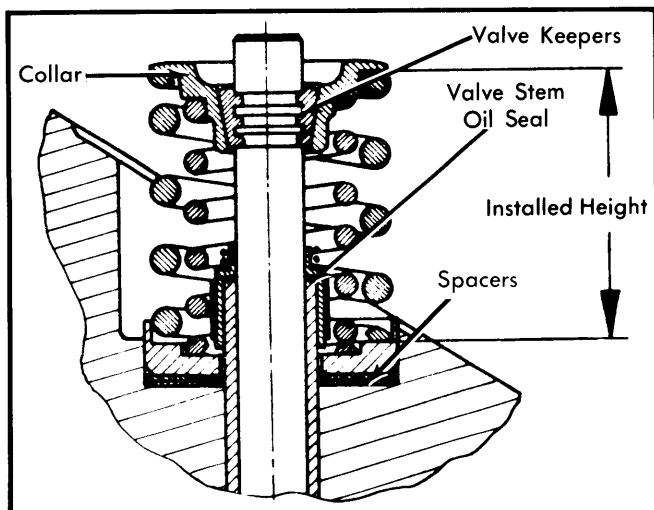

**Fig. 7 View of Engine from Blower End (Rear of Car) Showing Valve Timing Marks**
1) Rotate crankshaft until mark "Z 1" on crankshaft pulley aligns with mark on crankcase. Use suitable tool (P 202) to rotate camshaft until dot on end of shaft is on top of camshaft vertical centerline. See Fig. 7. Find hole in camshaft sprocket which exactly lines up with camshaft flange and insert dowel pin. Install lock washer and nut.